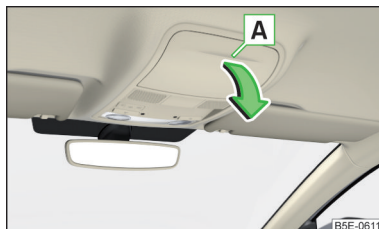

Fig. 88
- To **open**, press on the outer edge of the glasses compartment in area **A**. The compartment folds in the direction of the arrow » Fig. 88.